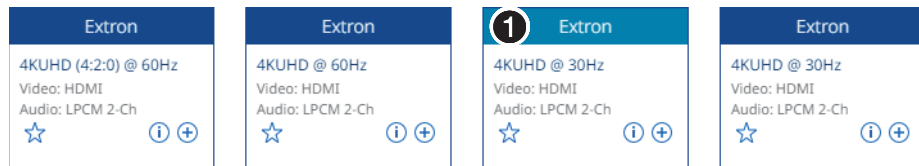

Figure 58. Custom EDID Displayed in EDID Page
The EDID page returns to the top. The added EDID is displayed with a lighter border color (see figure 58, ❶).